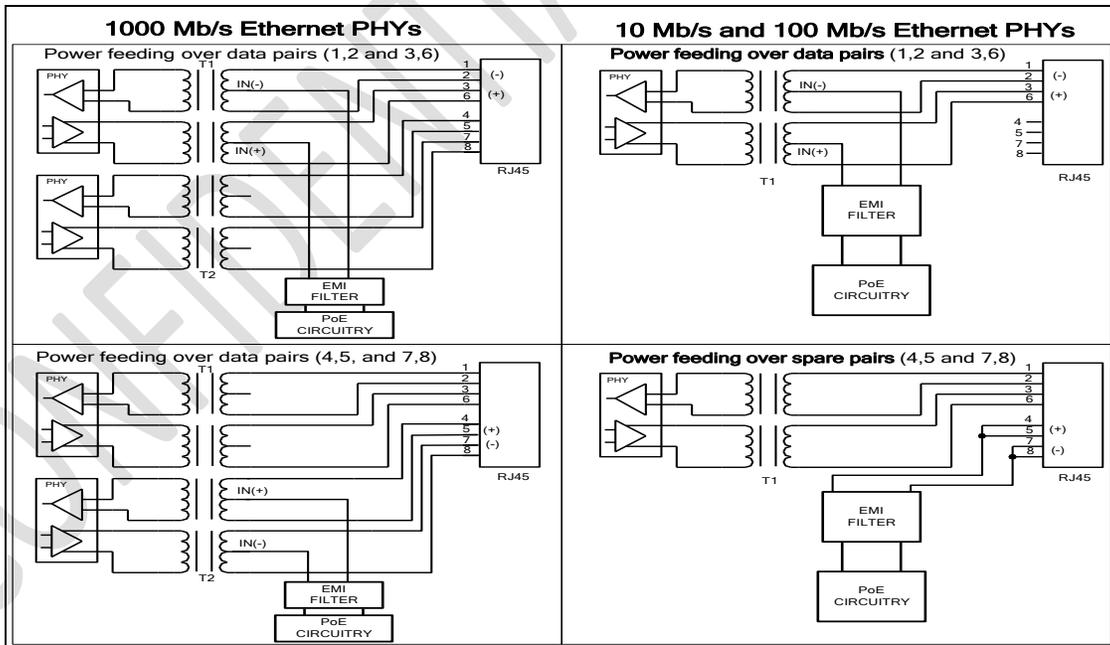

Figure 14: Output Ports Design Details
As specified in the IEEE PoE standards, PoE output power can be supplied over the data pairs or the spare pairs. Both methods are detailed in Figure 14 which illustrates an MDI-X (or Auto MDI-X) connection associated with the switch.
- ◆ The PoE ports outputs must be connected to the switch's pulse transformers as shown in Figure 14. The common mode choke and 'Bob-Smith' termination (resistor-capacitor) to chassis ground are optional and used to reduce RFI noise. The circuit is to be located as close as possible to the pulse transformer.